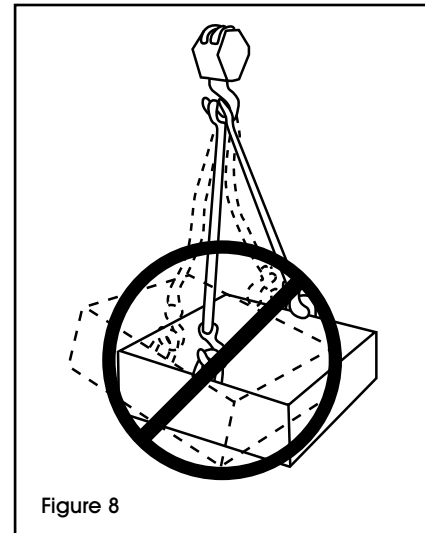

Figure 8
- Do not shock load. Jerking the load could overload the sling and cause it to fail. (See Figure 8)